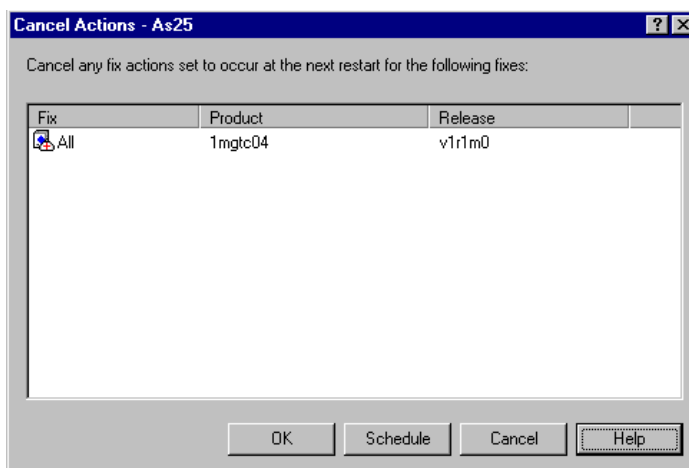

Figure 107. Cancel Actions window
3. Right-click on the product to which the fix is related. Select **Advanced**, and then click on **Cancel Actions**. The Cancel Actions window will contain information similar to what is shown in Figure 107 on page 126.